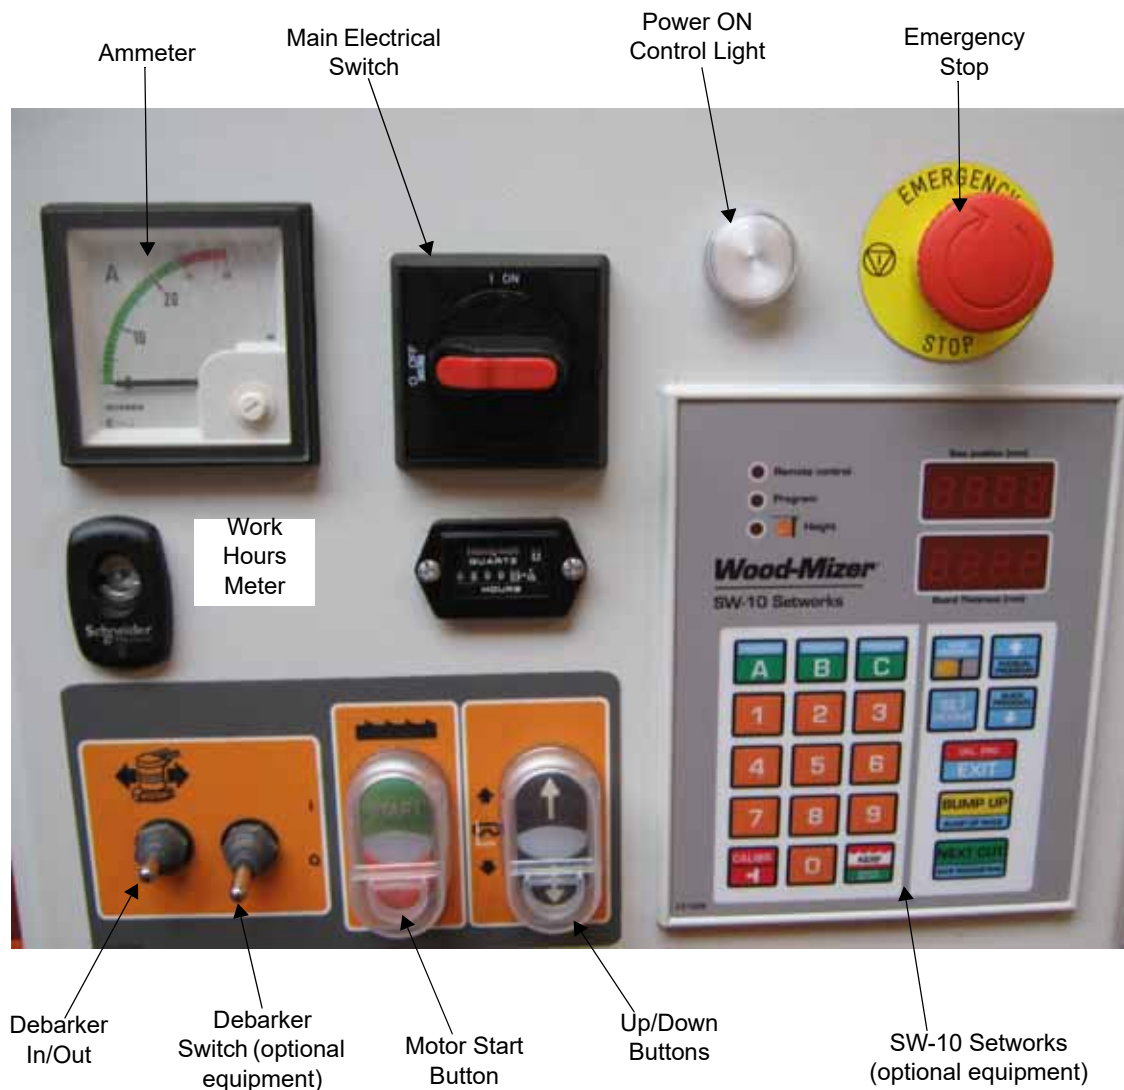

FIG. 3-16
**See Figure 3-16.** To engage the blade, perform the following steps: